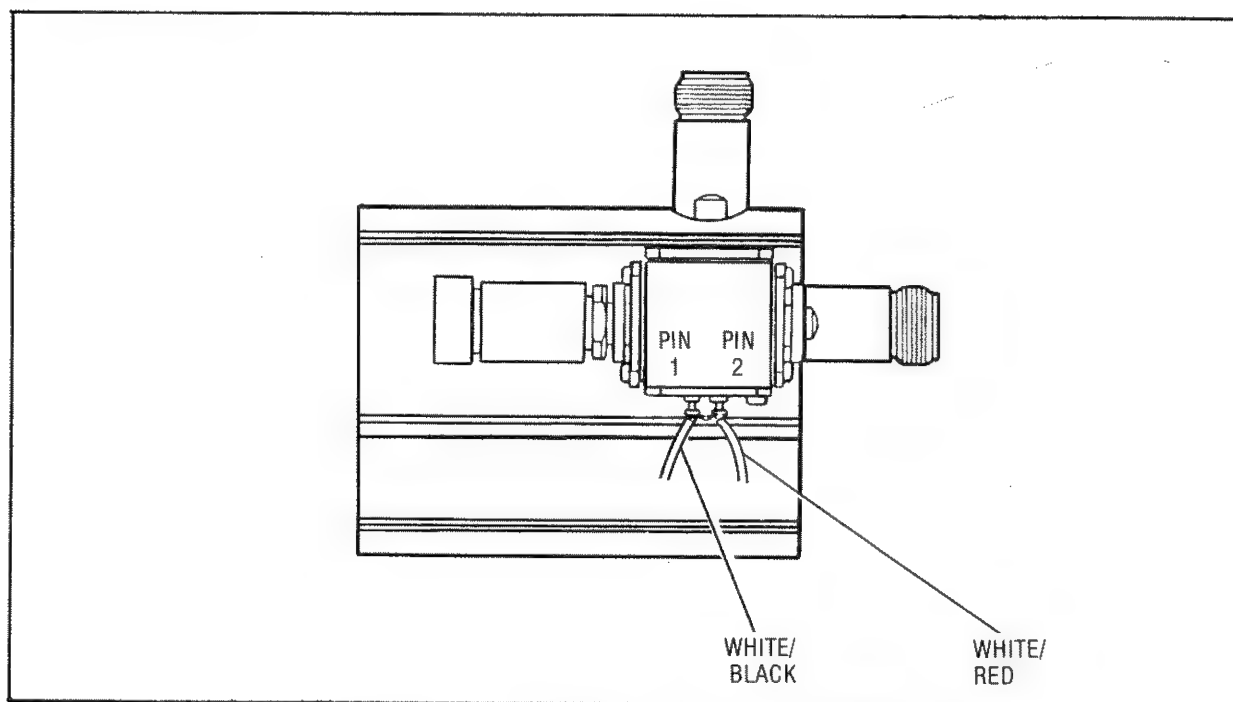

Figure 8-6. A1 Bridge Microcircuit Assembly
The bridge microcircuit assembly A1, illustrated in Figure 8-6, includes input port connector J1 and test port connector J2 and reference termination AT1. This assembly may be replaced on an exchange basis at considerable cost savings. Refer to Section VI of this manual for the part numbers for new and exchange assemblies. Since the instrument serial number label must be removed for access to the bridge assembly, each replacement bridge assembly is supplied with a replacement blank serial number label. The instrument serial number should be typed on this label, which is then applied to the instrument following bridge assembly replacement.
5. Solder the preamplifier wires back into place. Solder the white/red wire to pin 2 on the bridge housing (see Figure 8-6). Solder the white/black wires to pin 1 and the bottom of the solder lug. Be sure that pin 1 and the solder lug are wired together.